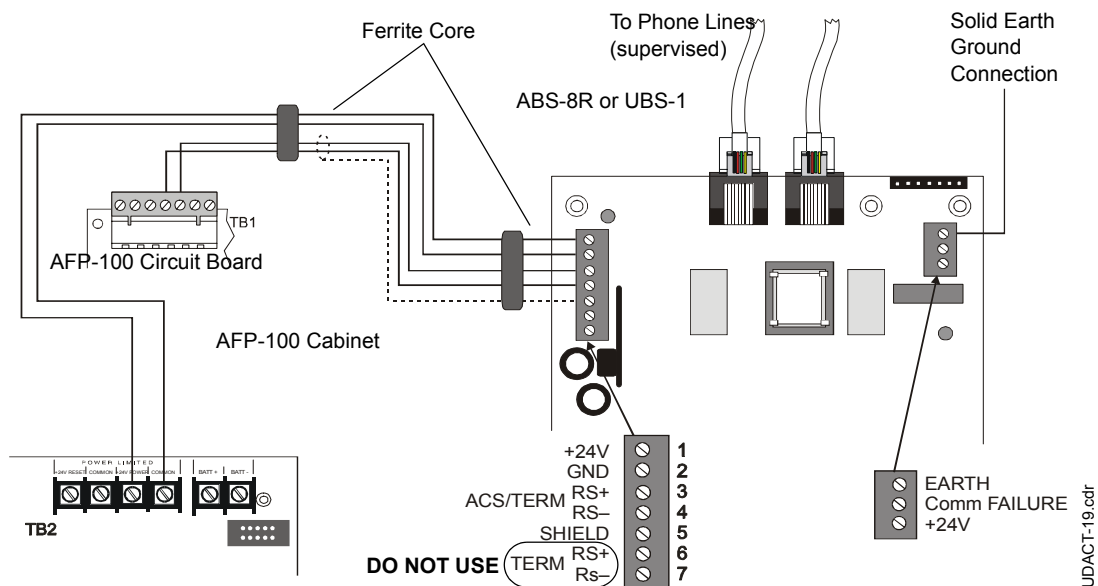

Figure 16 UDACT and AFP-100
For external connections refer to Figure 16 on page 68.
2. Recommended wire is 12 AWG (3.25mm²) to 18 AWG (0.75mm²), twisted pair, shielded cable. Connect only one end of shield: a) shield may be connected to cabinet (earth ground) at fire alarm panel, or b) shield may be connected to TB1 Terminal 5 (Shield) at UDACT as shown in Figure 16.